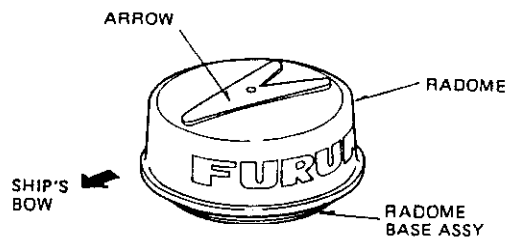

Figure 6-8 Radome Cover Placement
- Put the radome on the radome base assembly, taking note of that the arrow should face in the direction of the bow. See Figure 6-8.